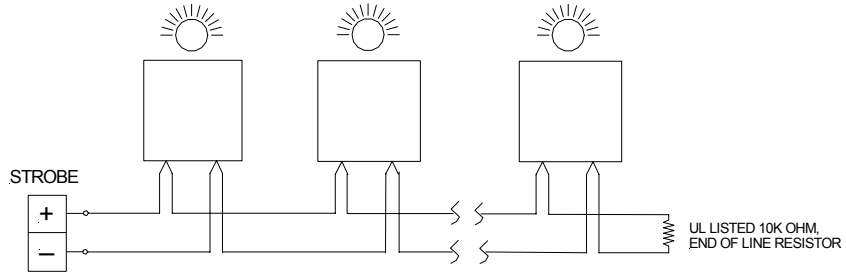
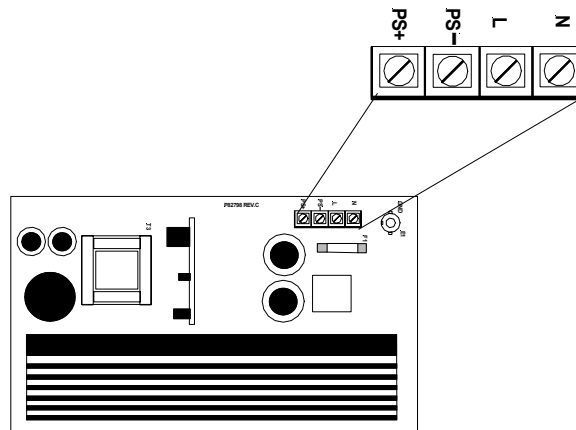

Figure 3-12
Figure 3-16
The Audio Booster Panel contains a 24VDC Power Supply (SAPS). Batteries are charged from battery charger located on the Audio Booster PC Board. Connect the AC input power to the Line (L) and Neutral (N) terminals on the Power Supply PC Board (SAPS) as shown in Figure 3-12 below. Connect the battery to the BATTERY terminals on the Audio Booster PC Board shown in Figure 3-16. The DC OUT on the Audio Booster is used to power the splitter modules only. Calculate proper backup battery requirements using Section 3-8 – Battery Care and Backup Battery Calculations (Page 38). Section 3-9 on Page 40 is the AC and battery installation procedures.
1. Using Figure 3-16 on Page 33, connect the line and neutral 120VAC input wiring to the L (Line) and N (Neutral) terminals on the power supply module (SAPS).